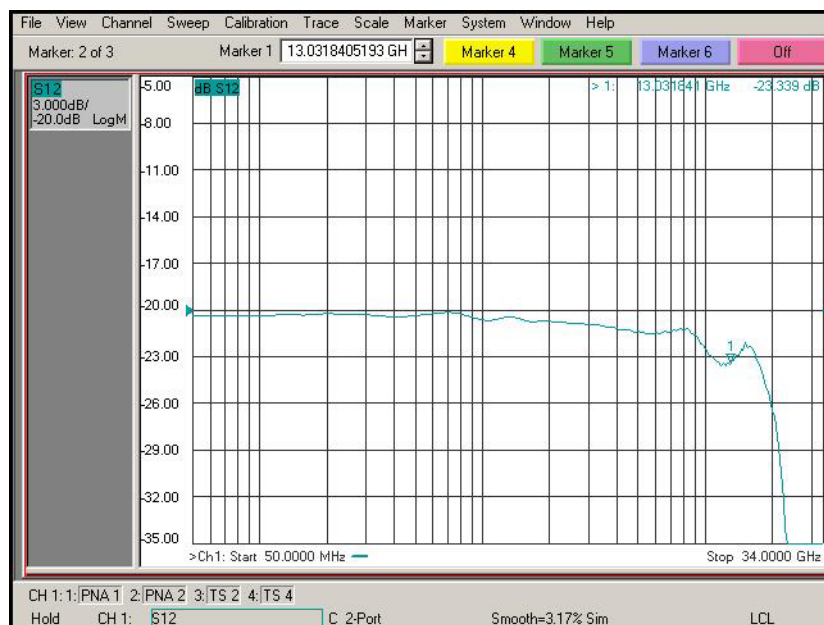

Figure 94 De-Embedded V_{out} Trace
- c Display should look like **Figure 94**. If it looks noticeably different, the probe tip wires may not be making contact under the pincher.